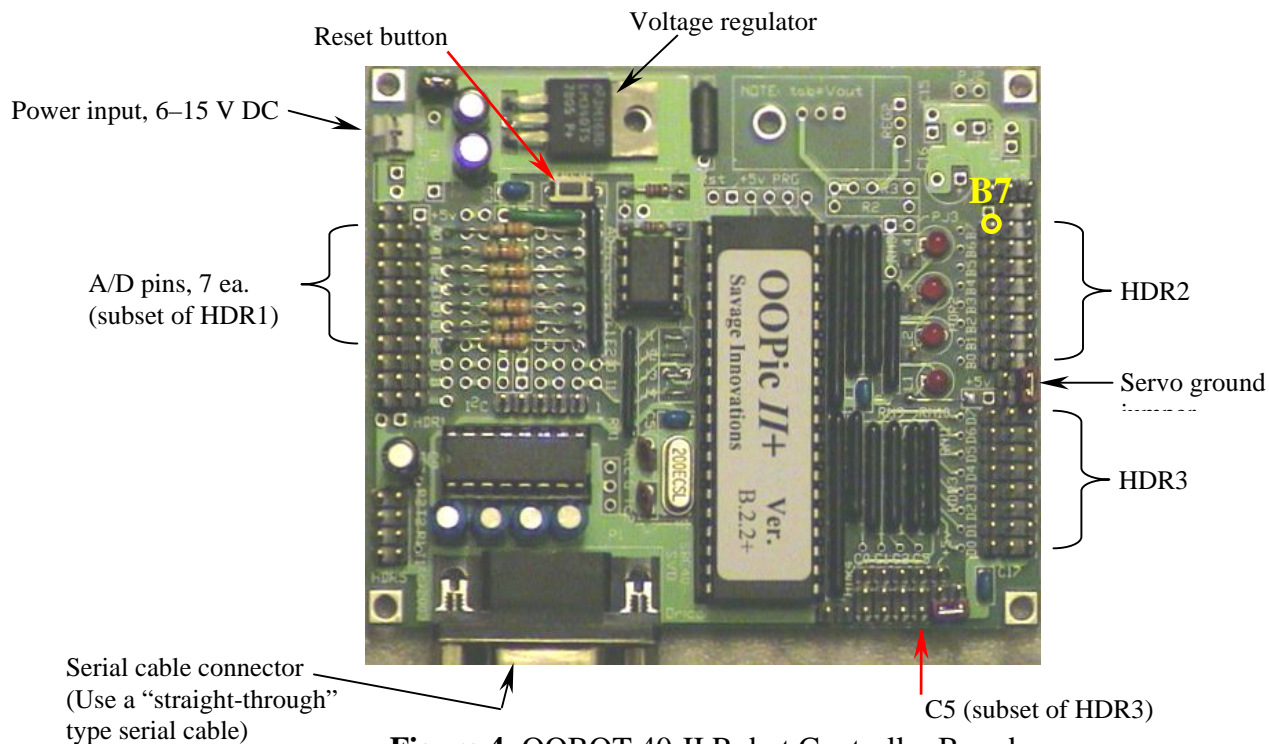

Figure 4 OOBOT 40-II Robot Controller Board
7. Remove the OOPic from its anti-static bag, being careful to avoid touching the exposed pins. It is always a good idea to hold a card like this by its edges, and avoid touching the pins or circuit traces unless you are properly grounded for electrostatic discharge (ESD). Orient the OOPic as shown in Figure 4.
10. After you are successful with step 9, turn off the power supply, and connect the piezo speaker to the three pins in the vertical row at C5 in HDR 4 (see Figure 4), so that the black wire connects to the pin closest to the lower edge of the board. The outermost pins along the edges of the board in each HDR block are all ‘ground’.
15. Build the circuit shown below in Figure 5 on the solderless breadboard. Use a jumper wire (female socket on one end, stripped wire at the other end) to connect the OOBOT pin B7 (see Figure 4) to the solderless breadboard. Note that the 10 μF capacitor is POLARIZED. If you look at the side of the capacitor body, you will see one leg marked with a minus sign. IT IS EXTREMELY IMPORTANT THAT THE MINUS LEG ALWAYS BE KEPT AT LOWER POTENTIAL THAN THE OTHER LEG! If you reverse the polarity, the capacitor can explode, so take extra precaution and double-check how you wire the capacitors before you apply power to your circuit. Not all capacitors are polarized, but electrolytic ('lytic for short) capacitors are.